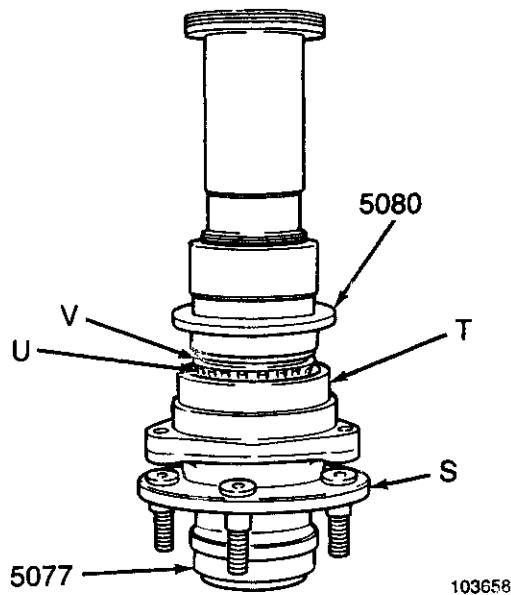

Fig. 16
13. Place hub (S) (Fig. 16) and bearing carrier (T), (Fig. 16) on bearing race installer 5077 (Fig. 16) on press.
14. Position inner bearing (U), (Fig. 16) in bearing carrier (T), (Fig. 16).
15. On Jeep models, place inner bearing and seal (V), (Fig. 16) on bearing carrier (U), (Fig. 16).
16. Install seal installer tool 5080 (Fig. 16) and press inner bearing (U) (Fig. 16) and seal (V) (Fig. 16) onto hub.